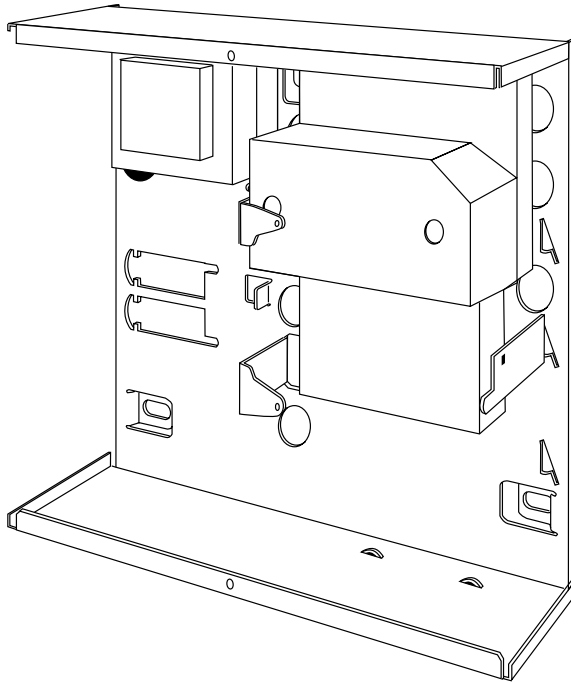

Figure 18. Fitting a Plug ByCommunicator
3. Fit the communicator between the PCB support pillars, making sure that the main PCB can fit back into position (see Figure 18).